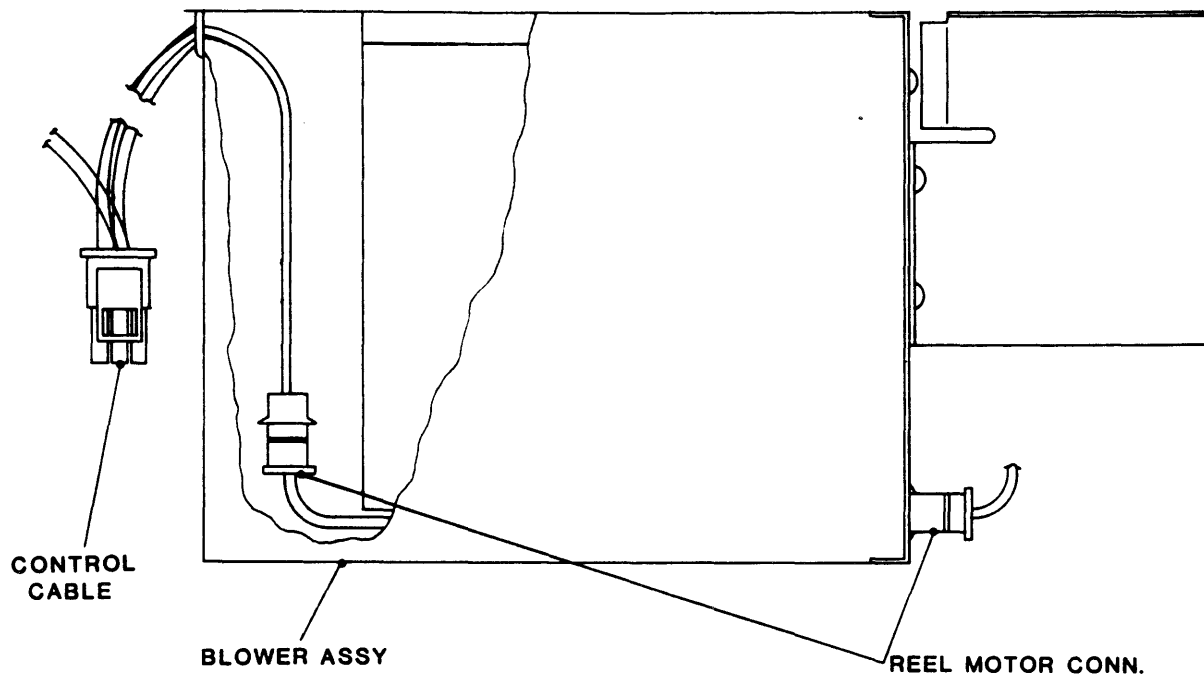

Figure 4-16 Blower Assembly
4.3.17 BLOWER ASSEMBLY (Fig. 4-16)